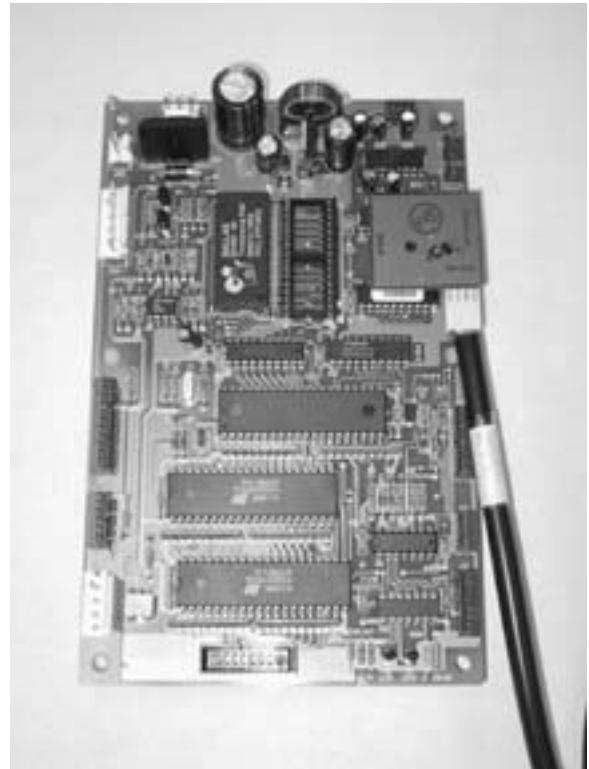

Figure 5
3. Plug the cable harness into the interface board (See Figure 5):